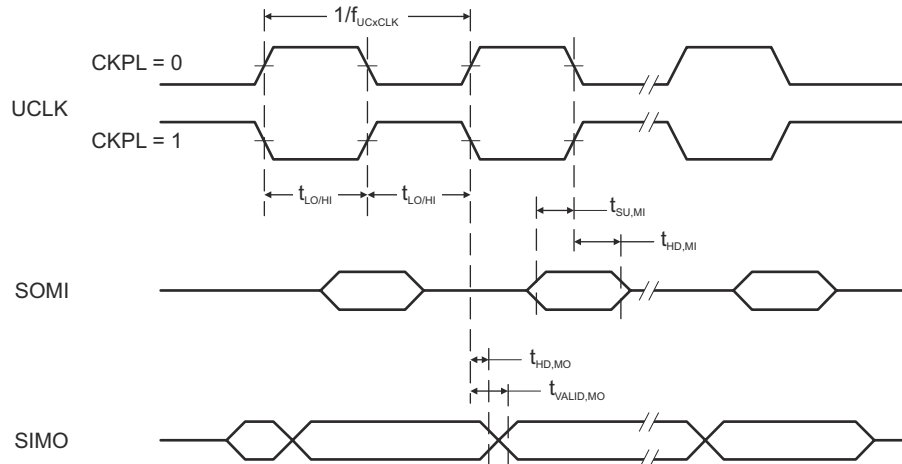

Figure 8-11. SPI Master Mode, CKPH = 0
(see Figure 8-11 and Figure 8-12)
- (2) Specifies the time to drive the next valid data to the SIMO output after the output changing UCLK clock edge. See the timing diagrams in Figure 8-11 and Figure 8-12.
- (3) Specifies how long data on the SIMO output is valid after the output changing UCLK clock edge. Negative values indicate that the data on the SIMO output can become invalid before the output changing clock edge observed on UCLK. See the timing diagrams in Figure 8-11 and Figure 8-12.